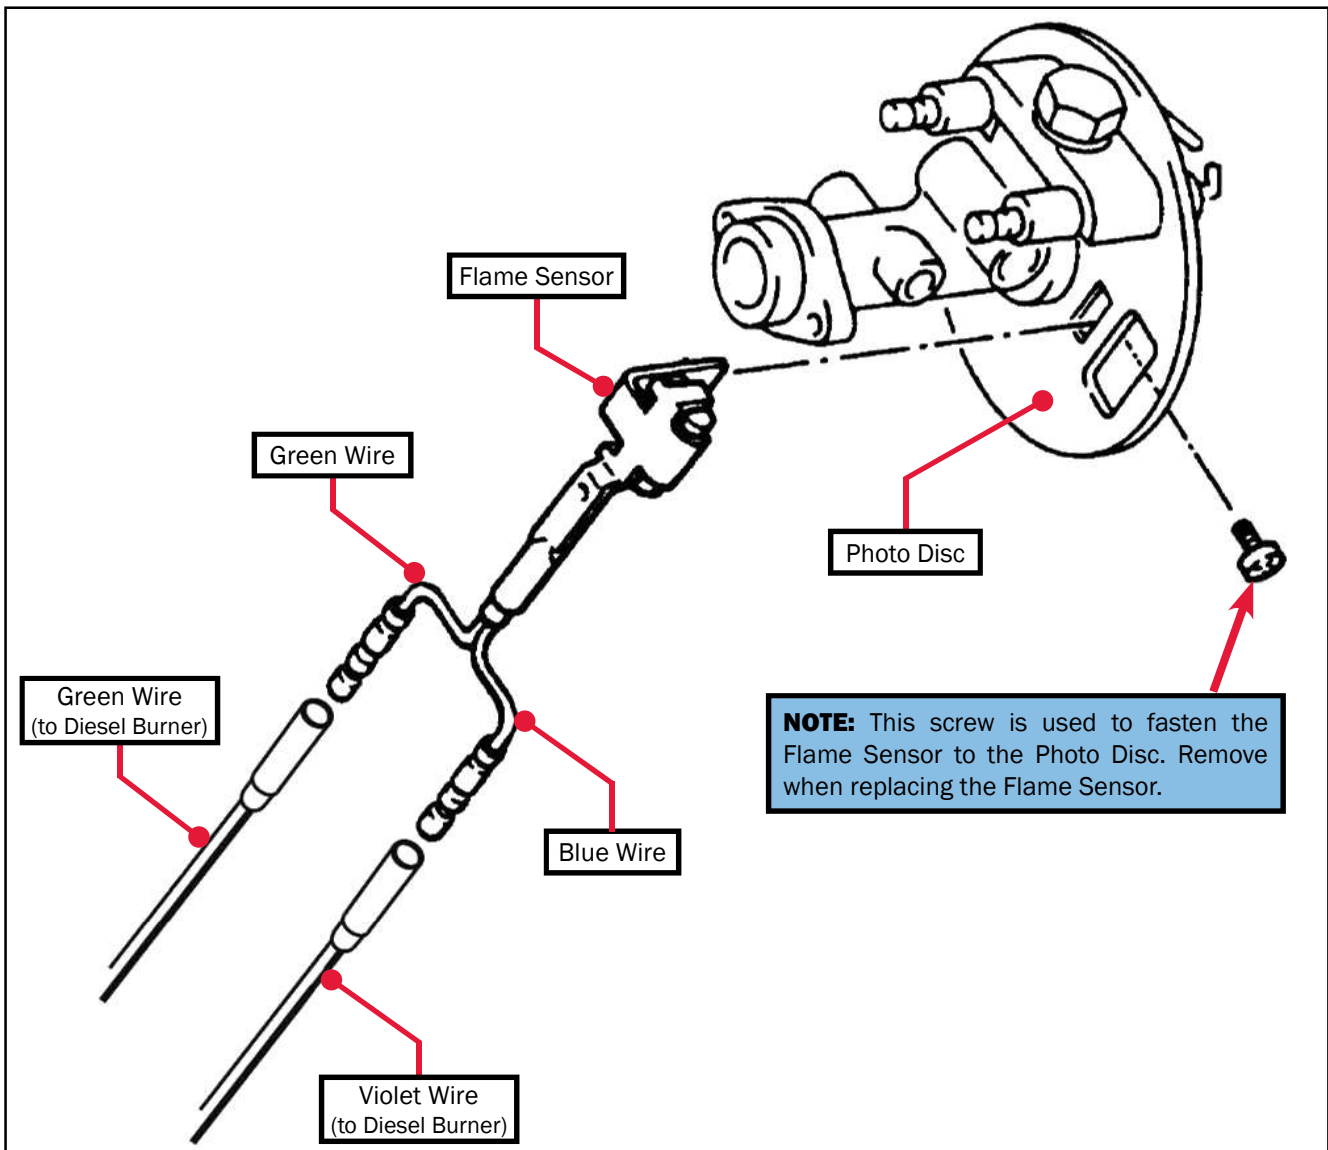

Figure 73
2. Remove the screw that fastens the flame sensor to the photo disc (as shown in Figure 73), and detach the flame sensor's green and blue wires from the C-plug harness' green and violet wires. Remove the defective flame sensor.